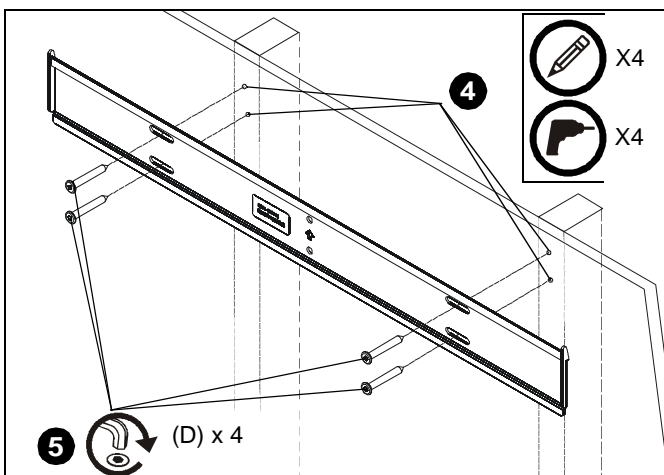

Figure 2
4. Using wall plate as template, mark and then drill four 3/16" diameter pilot holes through mounting surface making sure the holes are centered in the middle of each stud. Holes must be drilled at least 2-1/4" deep. (See Figure 2)
5. Install four connector screws (D) through wall plate and into pilot holes using M4 Allen Head bit (CC). (See Figure 2)